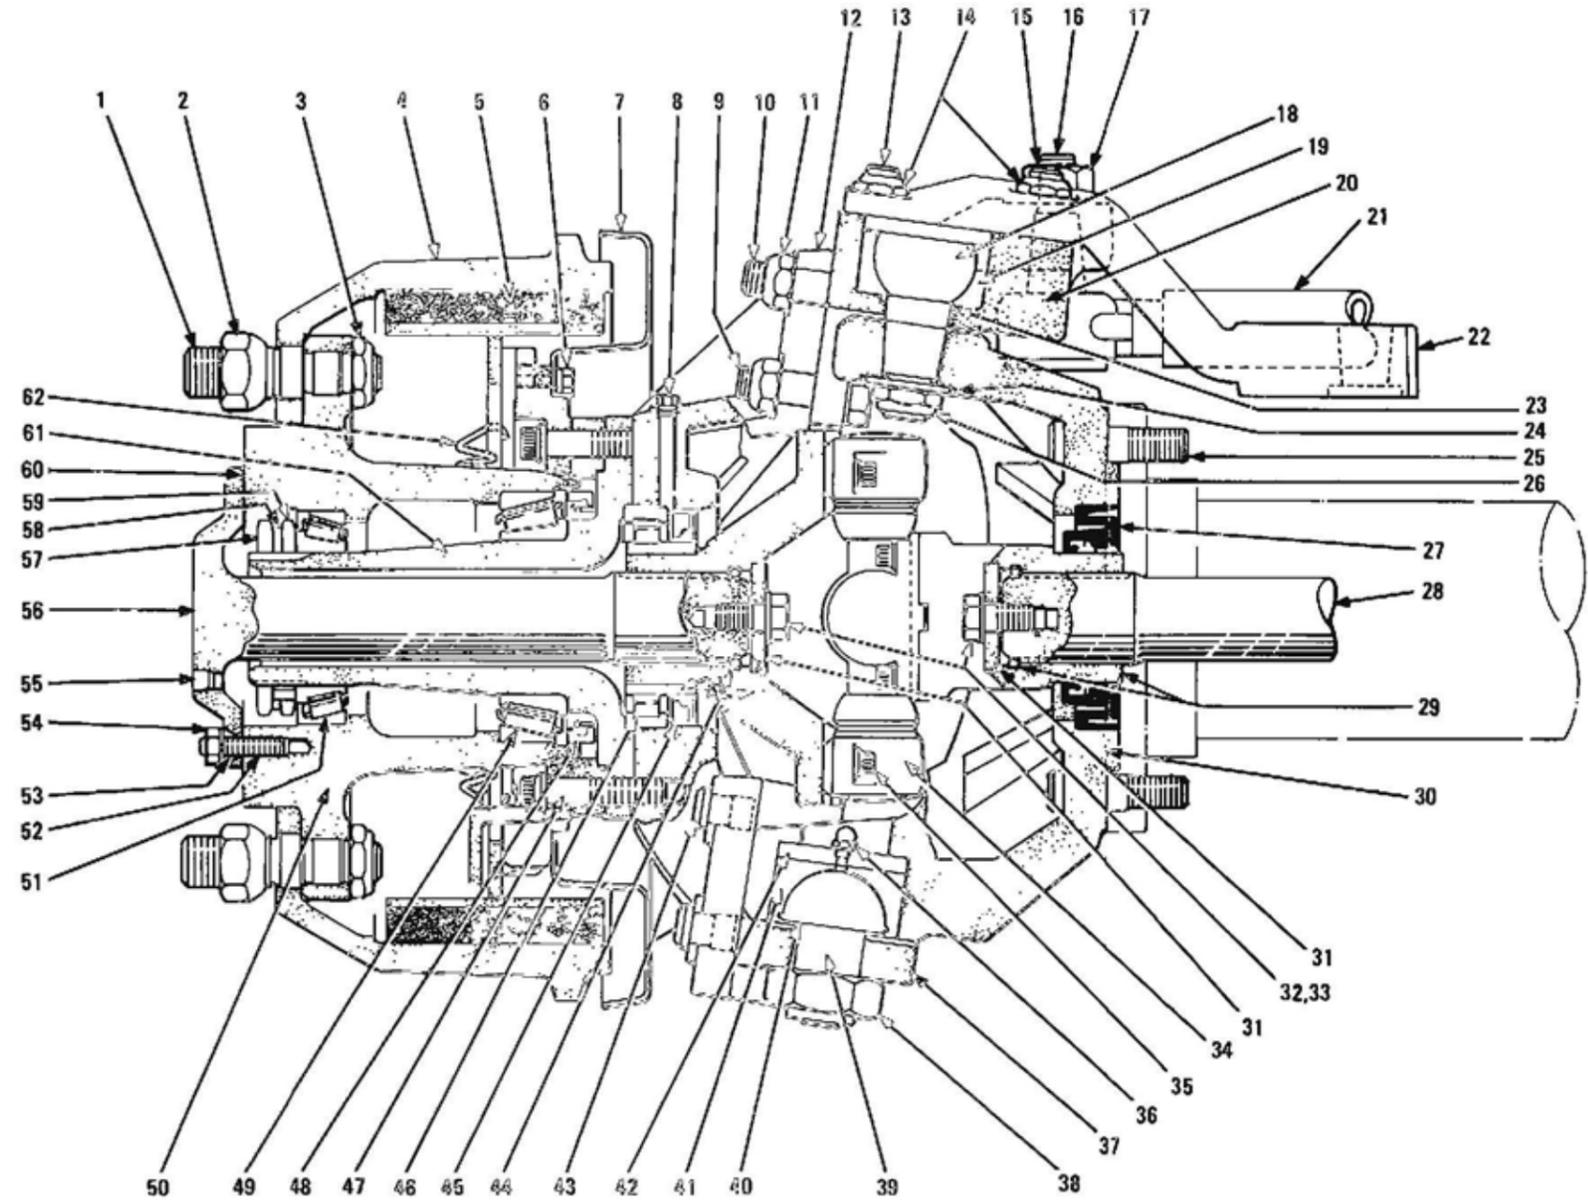

Figure 80 Sectional Drawing of Steerable Drive End
**129.** The axle is a constant drive type with drive from the carrier being transmitted to the wheels via Eaton axles, Spicer Mechanics universal joints and Fabco drive ends (Figure 80). Brakes fitted to the axle are air operated wedge type with shoes and drums. The axle is mounted to the chassis by two semi-elliptic leaf springs and spring rate is dampened by two double-acting shock absorbers.